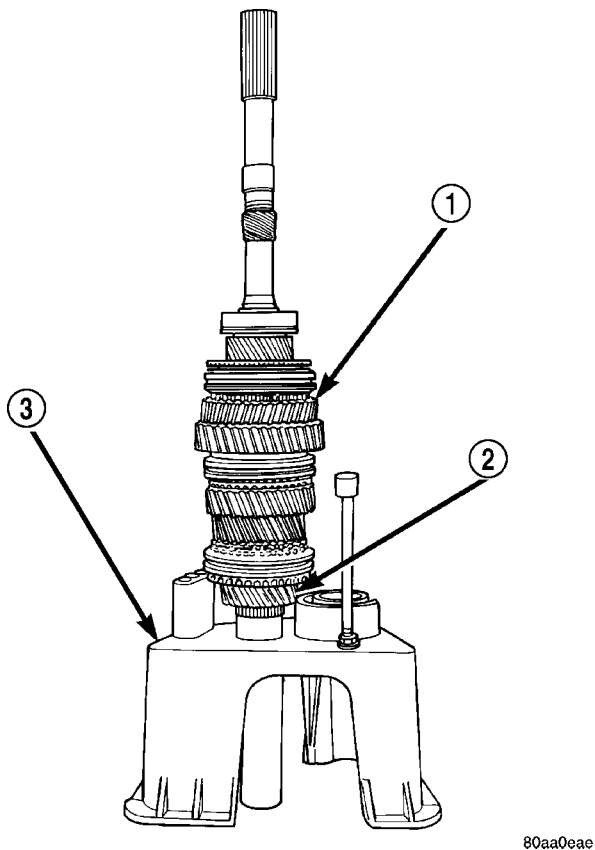

Fig. 89 OUTPUT SHAFT AND GEARTRAIN
(6) Install assembled output shaft and geartrain in input shaft (Fig. 89). Carefully rotate output shaft until the 3-4 synchro ring seats in synchro hub and sleeve.